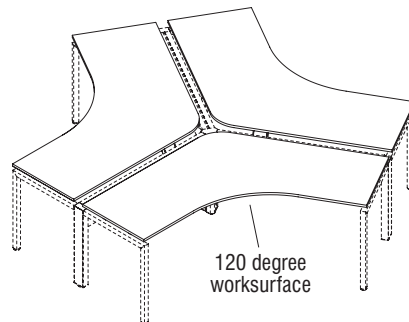

Figure 5
- 120-Degree Rail Worksurface (Figure 5).